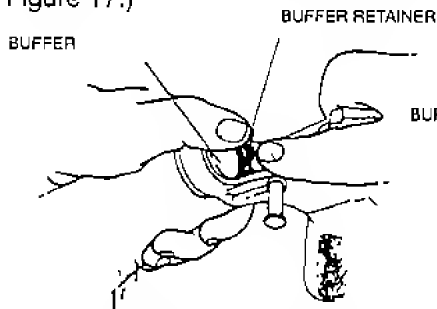
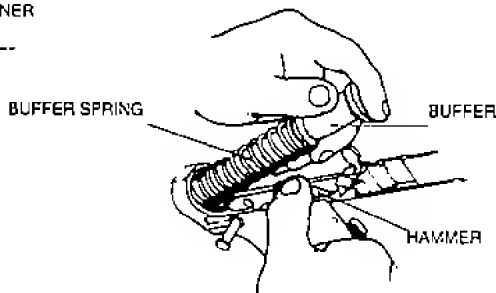

FIGURE 16 — BUFFER RETAINER
FIGURE 17 — BUFFER AND
15. Depress buffer, maintaining pressure as buffer is under spring tension, to prevent it from being ejected when buffer retainer is depressed. Depress buffer retainer to permit buffer and action spring to move forward. (See Figure 16.) Then depress the hammer to allow the action spring and buffer assembly to continue to move forward and be completely removed from the receiver extension (See Figure 17.)